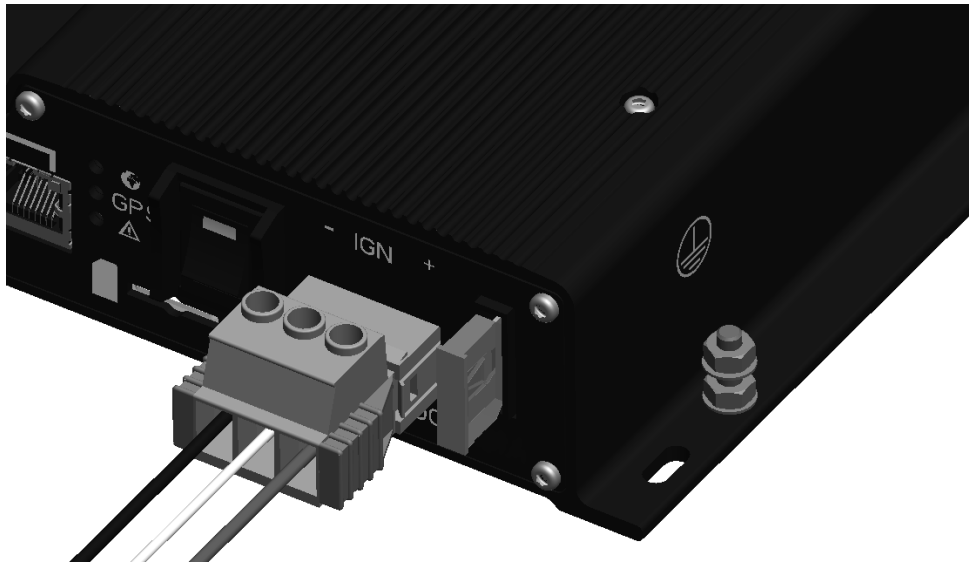

Figure 3-1 Chassis ground
The unit includes an isolating power supply. The IDU must be grounded by connecting a grounding wire from the chassis ground point to the vehicle chassis. See Figure 3-1. The ground wire should be clamped between the two nuts ensuring both are securely tightened.
7. Ground the IDU to the vehicle via a wire connected to the IDU chassis ground. See Figure 3-1.